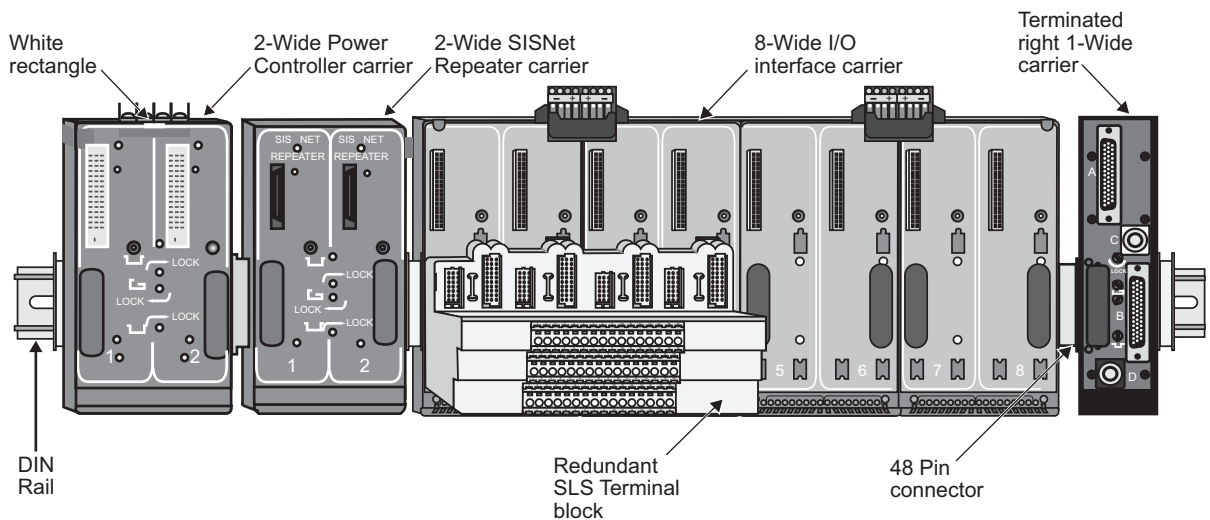

Figure 2-1 Redundant Terminal Block Installed on Carrier
Be sure that you are using the 2-wide power/controller carrier numbered KJ4001X1-BA3 or higher. DeltaV SIS hardware requires this version. As shown in Figure 2-1, a small white rectangle is printed on the front of this carrier to distinguish it from earlier versions.
2. Insert the tabs on the back of the terminal block through the slots on the carrier and push the terminal block up to lock it into place. Figure 2-1 shows a redundant terminal block installed on an I/O interface carrier.